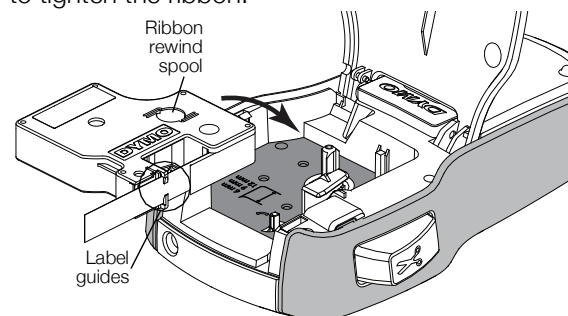

Figure 4
- 2 Make sure that the label and ribbon are taut across the mouth of the cassette and that the label passes between the label guides. See Figure 4.